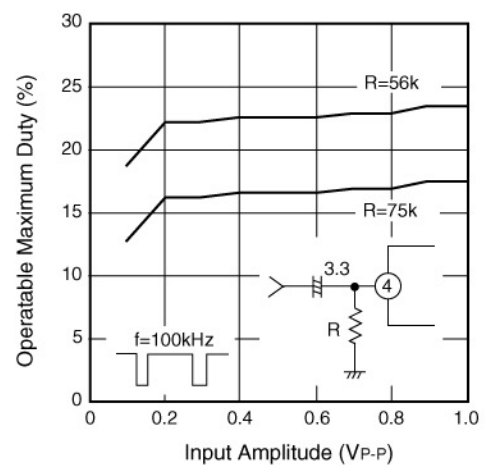

Fig. 1
When only a synchronous signal is input into pin ④, the operable amplitude and the duty are as shown in Figure 1.